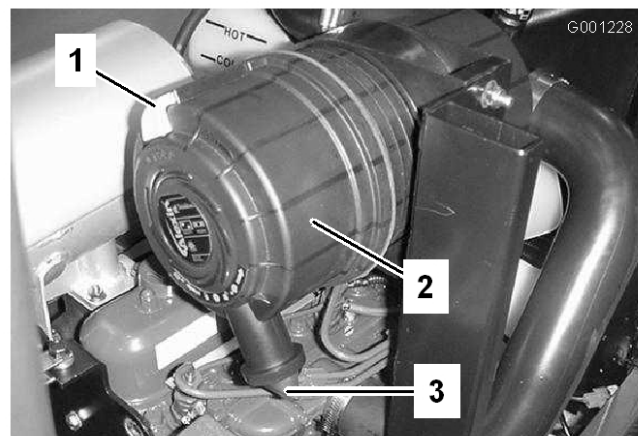

Figure 44
1. Pull the latch outward and rotate the air cleaner cover counter-clockwise (Figure 44).
2. Remove the cover from the air cleaner body (Figure 44).
8. Install the cover orienting the rubber outlet valve in a downward position—between approximately 5:00 to 7:00 when viewed from the end (Figure 44).